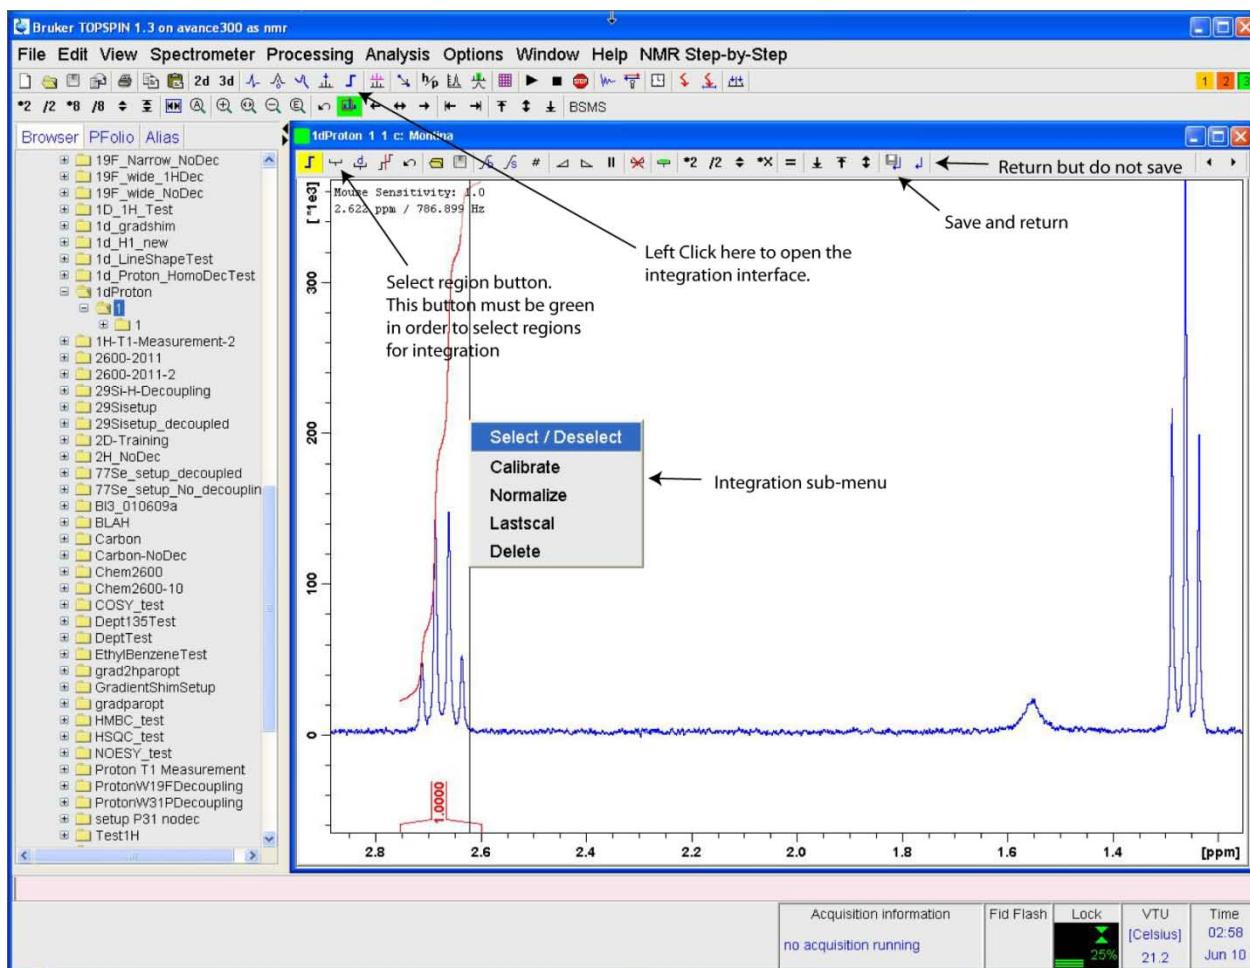

Figure 26 Topspin integration interface.
(22) The spectrum is now ready to be integrated. The integration interface can be brought up by left clicking on “Integrate” in the NMR step-by-step menu or on the icon indicated in Figure 26. The select region button (indicated below) must be highlighted green in order to select the region for integration. The region for integration can be selected by left clicking the mouse, dragging the cursor over the area of interest, and then left clicking one more time. A user should right click over an integrated region to open the integration sub-menu. This menu will allow the user to calibrate and/or delete the integrated region. When all integration is complete the user should left click on the save and return icon.